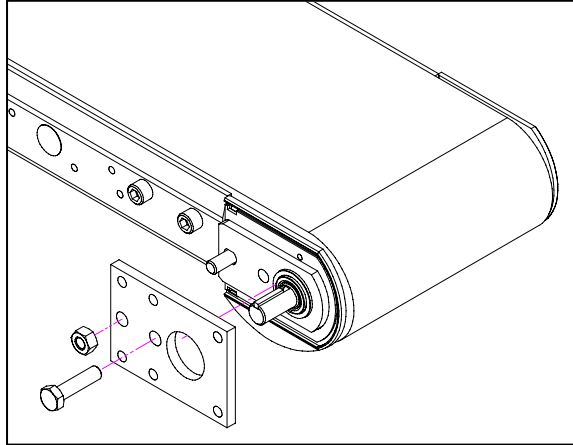

Figure 3
③ Install the Drive Mounting Plate
- a. Place the Drive Mounting Plate over the conveyor's spacer block stud and secure it in place with the 5/16-18 Hex Nut and 1/2" Hex Head Cap Screw (**Figure 3**).